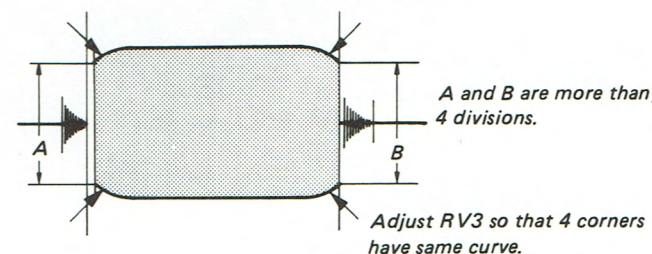

Fig. 27-4.
8. Adjust RV3 on BF board so that the four corners shown by arrows have same curve, and confirm that A and B are more than 4 divisions as shown in Fig. 27-4.